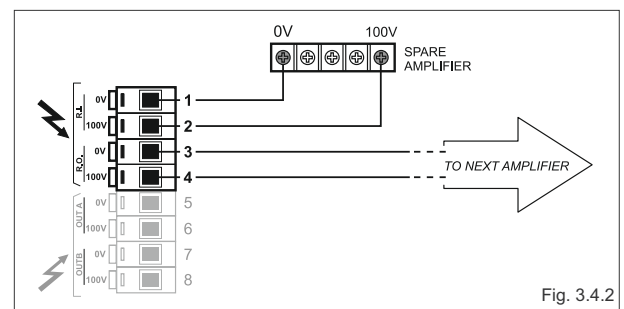

Fig. 3.4.2
The terminal strip (11), on the other hand, is for use for connecting a stand-by amplifier, if required (Fig. 3.4.2).